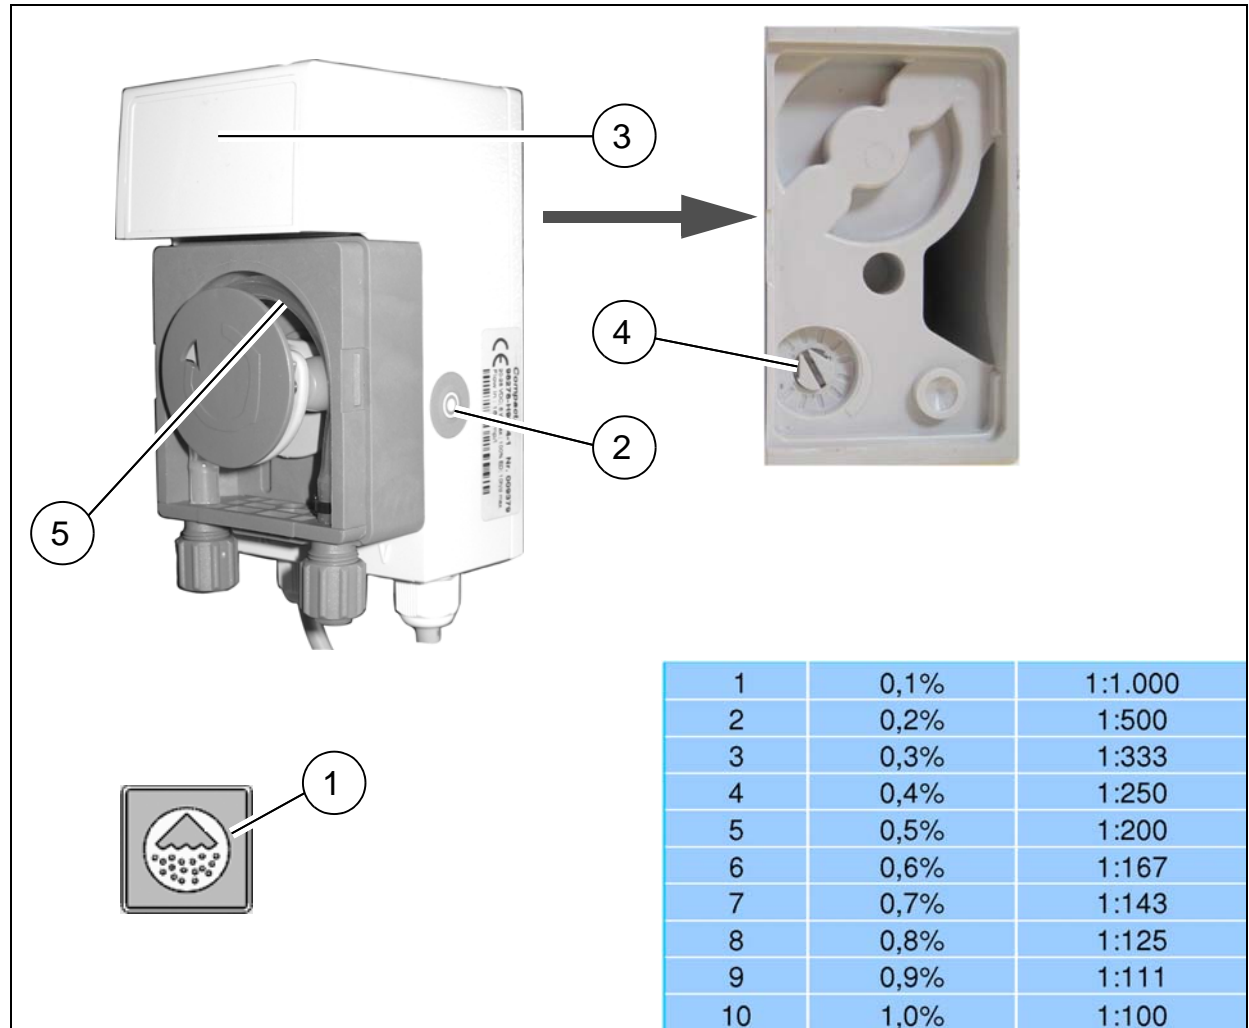

Fig. 9
3. Switch on the chemical dosing button (Fig. 9/1) at the control panel.
4. Press the fast fill switch (Fig. 9/2) at the dosing pump until the chemical reaches the non-return valve.
1. Remove the grey cover (Fig. 9/3) at the dosing pump.
Set the rotary control (Fig. 9/4) to between stage 1 and 2, see table.
Check the hose piece (Fig. 9/5) in the dosing pump (approx. 23 mm long) and replace it if necessary.